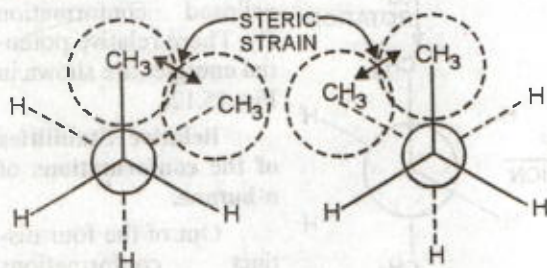

FIGURE 15.13. The two methyl groups in gauche conformations of *n*-butane being 60° apart cause steric strain.
(i) **Steric strain.** If the two non-bonded atoms (or groups) just touch each other, i.e. are held together at a distance just equal to sum of their van der Waals radii, they attract each other. Conversely, if the two non-bonded atoms or groups are brought closer than the sum of their van der Waals radii, they repel each other. Such repulsive interaction is called *van der Waals strain* or **steric strain**. For example, gauche conformation of *n*-butane (refer to Fig. 15.13), is less stable than anti-conformation due to steric strain or van der Waals strain because both these conformations are free of torsional strain and angle strain.
the two gauche conformations (II and IV) in which the two non-bonded methyl groups are only 60° apart and hence cause crowing or steric strain (Fig. 15.13). As a result of this steric strain, the two gauche conformations (II and VI) are slightly less stable than the anti-conformation (IV). However, the two gauche conformations are themselves of equal energy.